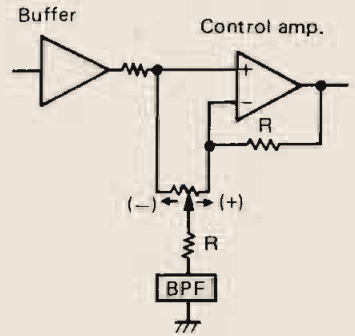
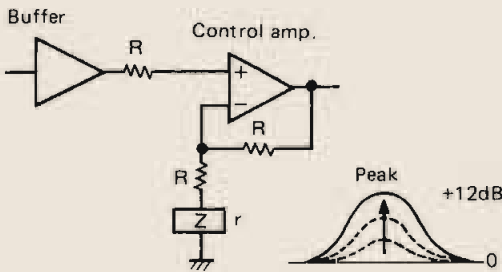

Fig. 1
Fig. 2
The equalizer circuit of this unit is shown in Fig. 1. When the control volume (VR) is turned in the direction of $\rightarrow (+)$, NF level lowers with the connection shown in Fig. 2, causing the gain of operation amplifier to increase, then the "peak" apperas. Contrarily, when VR is turned in the direction of $\leftarrow (-)$, the input impedance of operation amplifier becomes lowered with the connection shown in Fig. 3. Then the frequency level is "dip".